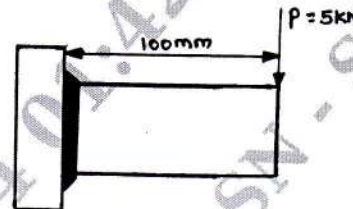

Fig Q8(b)
b. A solid circular shaft 25mm in diameter is welded to a support by means of a fillet weld as shown in Fig Q8(b). Determine the leg dimensions of the weld if the permissible shear stress is  $95\text{N/mm}^2$